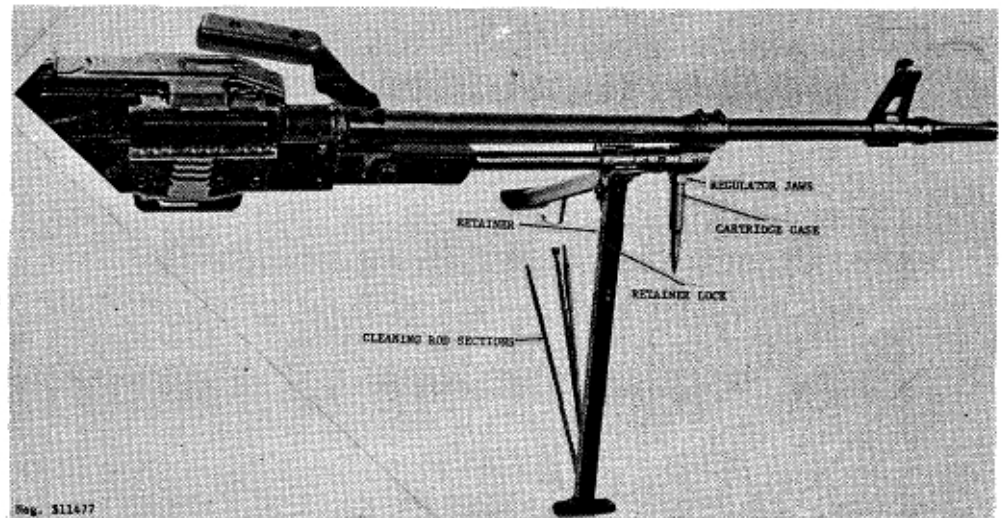

Figure 178. Adjustment of gas regulator.
f. The PK series guns have adjustable gas regulators, of which there are two types in use, one found on the PK, PKM, and PKS, the other on the PKT and PKB. Each regulator has the numbers 1, 2, and 3 inscribed on it. The PK type has a sleeve-type regulator (fig 178) that bleeds off excessive gas. To adjust this regulator, engage the rim of a 7.62x54-mm cartridge case in the regulator jaws (fig 178), and using this as a handle, rotate the
regulator as necessary. The detent tab (fig 178) covers the number which indicates the setting. Clean guns normally operate on the "1" setting; use the higher numbers for dirty guns or cold weather, and (for short bursts) antiaircraft firing. The rotary regulator of the PKT and PKB (fig 174) is changed by removing the cotter pin (if present) in the nut on the left side of the regulator, loosening the nut until the regulator can be tapped to the right sufficiently to disengage it from the detent. Rotate the regulator to the desired setting as indicated by the number that aligns with the detent. Tighten the nut and replace the cotter pin.
e. The PK and PKM carry a sectional cleaning rod in the bipod. Press the retainer lock (fig 178) and slide the retainer upward; the rod sections will fall out of the bipod leg. Screw the rod sections together for use.